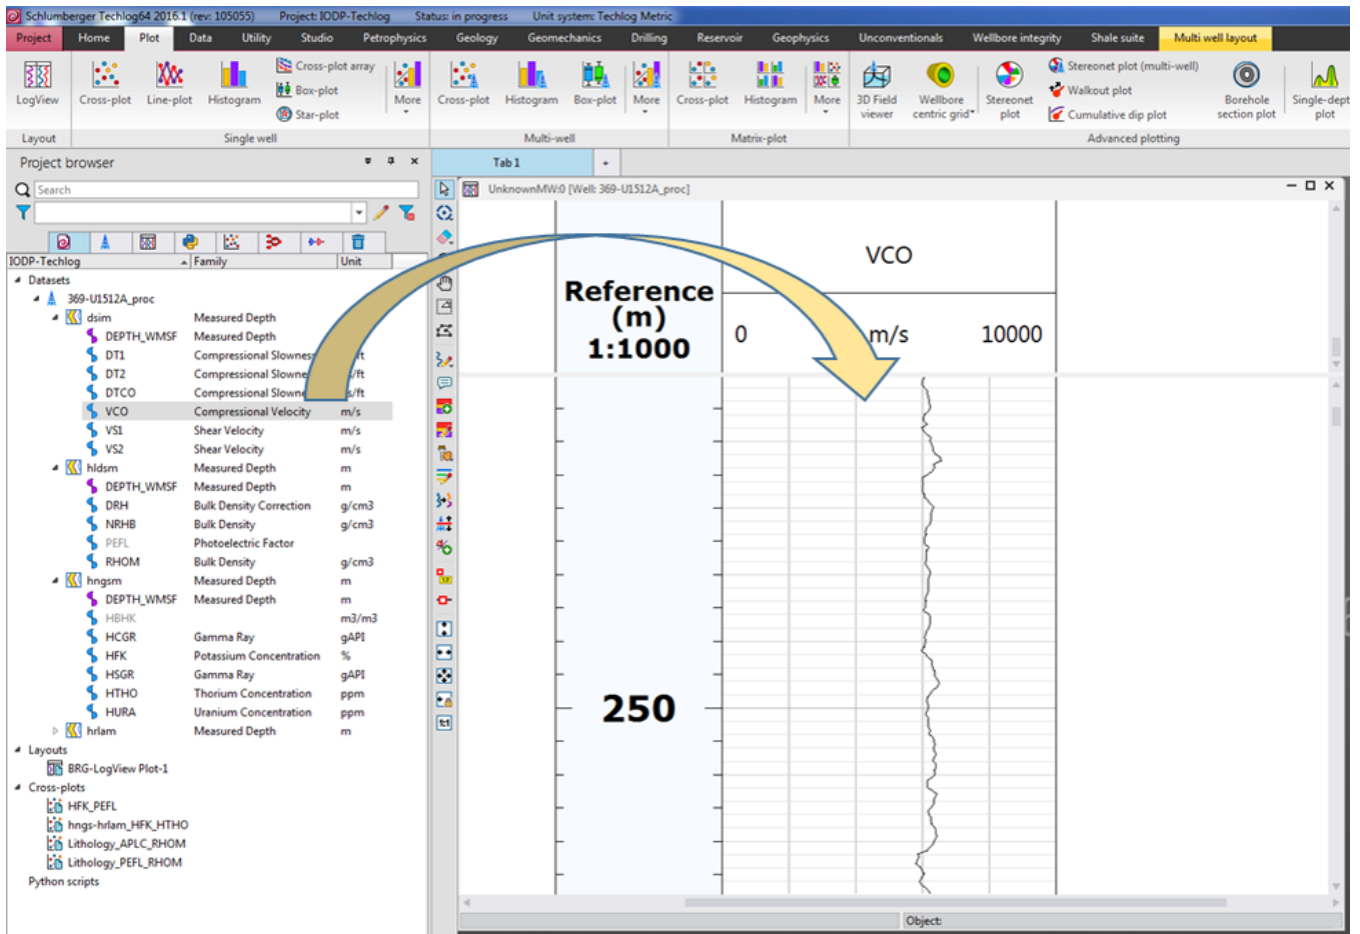

Figure 16: Plot menu toolbar and new LogView plot with a reference (Depth) and variable (VCO) track added.
1. In the Plot menu toolbar, click the LogView button (Fig. 16). A new Log View window will appear in the Display area,
1. To expand the window of the Log View Plot, click on the maximize (square icon) button on the upper right corner of the window (Fig. 16)